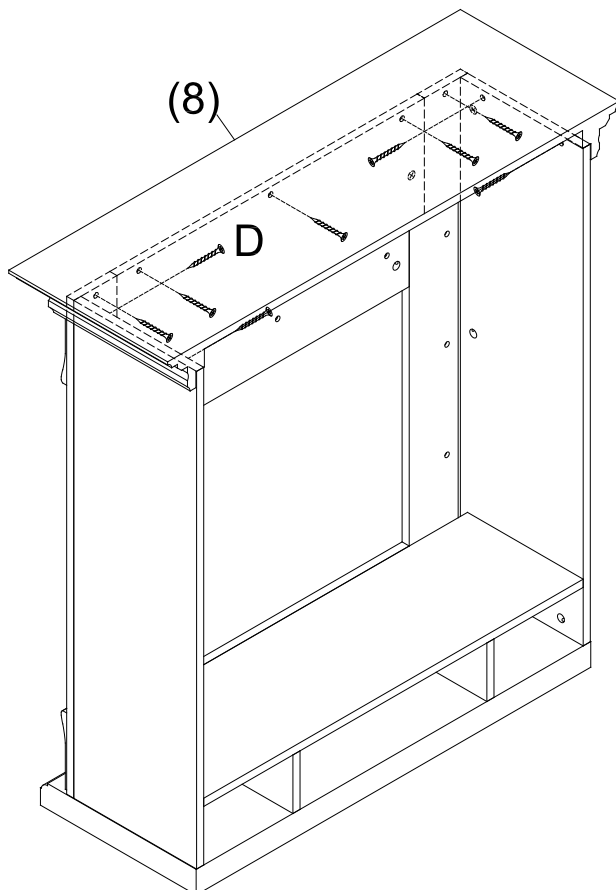

Figure 8
Use Screws (D) to connect Wood Block (13) to assembled unit on figure 8.